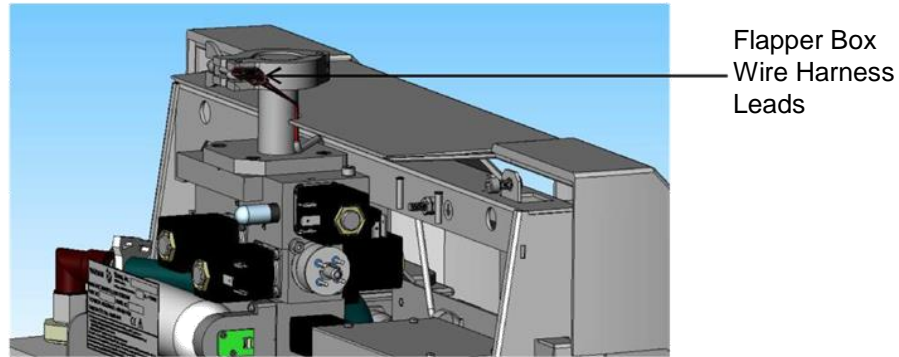

Figure 9: Front Cover Assembly
19. Carefully locate the Flapper Box Wire Harness leads between the front cover and the test port (“Figure 9: Front Cover Assembly”), for the VS model only (shown on right of figure). On the G8610, G8611, and G8612 models, feed these wires through the hole on the top cover by the inlet port, with the top cover still on the unit (shown on left of the figure).